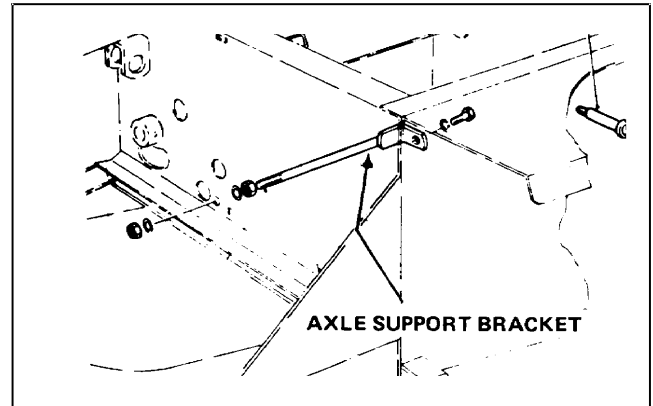

Figure 3A
7. Remove capscrew securing axle support bracket to top of differential. Loosen nuts securing axle support bracket to frame (Fig. 3A).